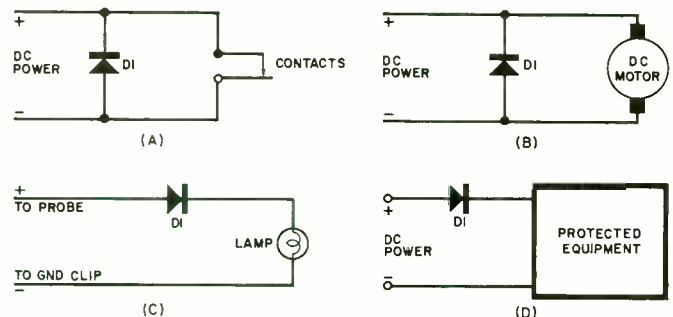

Fig. 1. Some diode applications: (A) contact arc suppressor; (B) motor spark suppressor; (C) polarity tester; and (D) polarity reversal protector.
With a little imagination, you can put your surplus diodes to work in a variety of interesting and useful circuits. Several of many possibilities are illustrated in Figs. 1 and 2. In each circuit, diode specifications are not critical provided peak reverse voltage and maximum current ratings are observed.
Use the arrangement illustrated in Fig. 1(A) to minimize dc electrical contact sparking, thus prolonging contact life and reducing electrical noise that may interfere with nearby electronic equipment. The diode offers high resistance to the normal flow of current, but serves as a spark-suppressing short to the back-voltage that develops when the contacts open. This technique may be used in most low voltage dc applications, including thermostat, relay and switch contact protection. Virtually any standard diode is suitable for this application, although low-forward-resistance types are preferred. If the diode becomes warmish in use, it indicates you need a larger (higher current rating) device, but several identical units may be connected in parallel in place of a single larger diode.
A similar technique can be used to suppress dc motor brush sparking, and with similar advantages — longer brush life and less electrical noise. As shown in Fig. 1(B), the diode is simply connected across the motor's terminals with the polarity indicated. This technique is a good one to remember when working with equipment using small dc motors, such as portable tape recorders and record players.
The simple dc polarity tester circuit given in Fig. 1(C) may be assembled in several different versions. For low-impedance applications, such as checking battery voltages and low-voltage power supplies, simply connect a diode in series with a suitable low-current incandescent lamp. You may have to add a current-limiting series resistor if the tested voltage(s) is higher than the lamp's rating. In use, the lamp lights when correct dc polarity is present between the tested points, remains dark with zero voltage or reversed polarity.
Although you might expect to find a rectifier in ac line-powered equipment, the use of one with battery powered gear may seem superfluous, so the circuit shown in Fig. 1(D) could cause a "double take." Believe it or not (with suitable apologies), though, this arrangement makes good sense. Many types of solid-state equipment can be seriously damaged if dc power is connected with reverse polarity, whether through circuit fault or improper installation. A series rectifier used as shown serves to void such damage. With correct polarity, the rectifier acts as a virtual short, supplying power to the equipment. If the source polarity is reversed, the rectifier acts as an open circuit, preventing current flow and protecting the equipment. When using this technique, make sure that your rectifier is capable of handling the equipment's current drain.